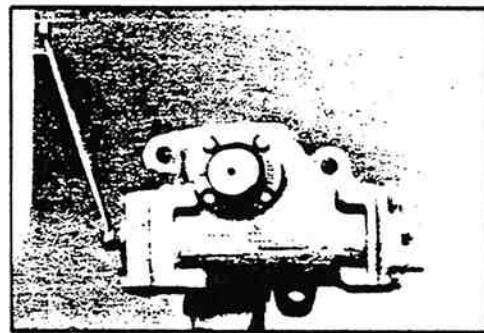

Figure 11-6. Loosening Sector Shaft From Nut.
3. Rotate the worm shaft to the end of the sector shaft (39) travel.
5. Clean the serrated end of the sector shaft and loosen the jam nut (53) on the sector shaft adjusting screw (49) (figure 11-6).